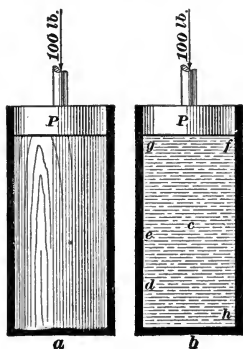
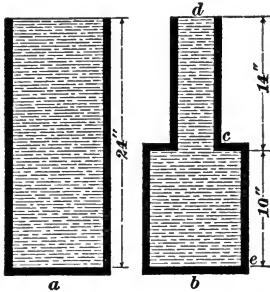
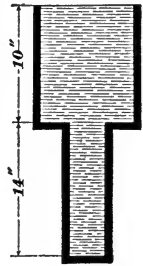
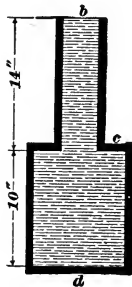

FIG. 1.
FIG. 3.
FIG. 4.
FIG. 5.
3. **Hydrostatic Pressure.**—Fig. 1 represents two cylindrical vessels of exactly the same size. The vessel *a* is fitted with a wooden block of the same size as, and free to move in, the cylinder; the vessel *b* is filled with water, whose depth is the same as the length of the wooden block in *a*. Both vessels are fitted with air-tight pistons *P*, each of whose areas are 10 square inches.
**7. Downward Pressure.**—In Fig. 3 the pressure on the bottom of the vessel *a* is, of course, equal to the weight of the water it contains. If the area of the bottom of the vessel *b* and the depth of the liquid contained in it are the same as in the vessel *a*, the pressure on the bottom of *b* will be the same as on the bottom of *a*. Suppose the bottoms of the vessels *a* and *b* are 6 inches square, and that the part *cd* in the vessel *b* is 2 inches square, and that they are filled with water. Then, since 1 cubic foot of water weighs 62.5 pounds, the weight of 1 cubic inch of water is  $\frac{62.5}{1,728}$  pound = .03617 pound. The number of cubic inches
If this pressure were to be obtained by means of a weight placed on each piston (as shown in Fig. 1 at  $a$  and  $b$ ), we would have to put a weight of  $6 \times 6 \times 10 = 360$  pounds on the piston in vessel  $a$ , Fig. 3, and one of  $2 \times 2 \times 10 = 40$  pounds on the piston in vessel  $b$ .
**10.** Suppose that the vessel *b*, in Fig. 3, were inverted, as shown in Fig. 4, the pressure on the bottom would still be .868 pound per square inch, but it would require a weight of 3,490 pounds on a piston at the upper surface to make the pressure on the bottom 391.25 pounds, instead of a weight of 40 pounds, as in the other case.
**11. Upward Pressure.**—In Fig. 5 is represented a vessel of exactly the same size as that shown in Fig. 4. There is no upward pressure on the surface *c* due to the weight of the water in the large part *c d*, but there is an upward pressure on *c* due to the weight of the water in the